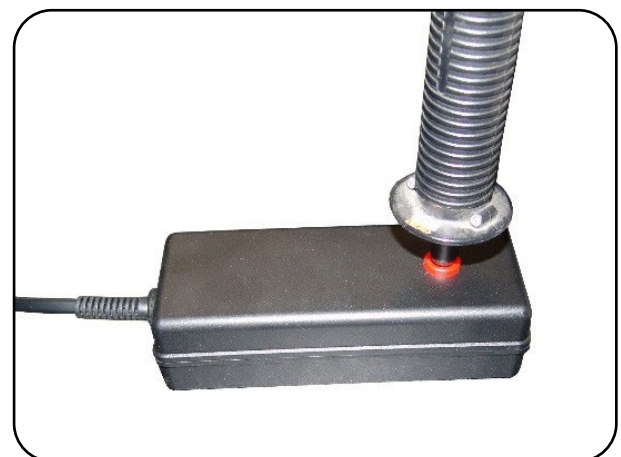

Fig. 19.02 – Adapter with test probe inserted
- Insert the test probe of your test device into the socket for the test probe of the adapter (Fig. 19.02).